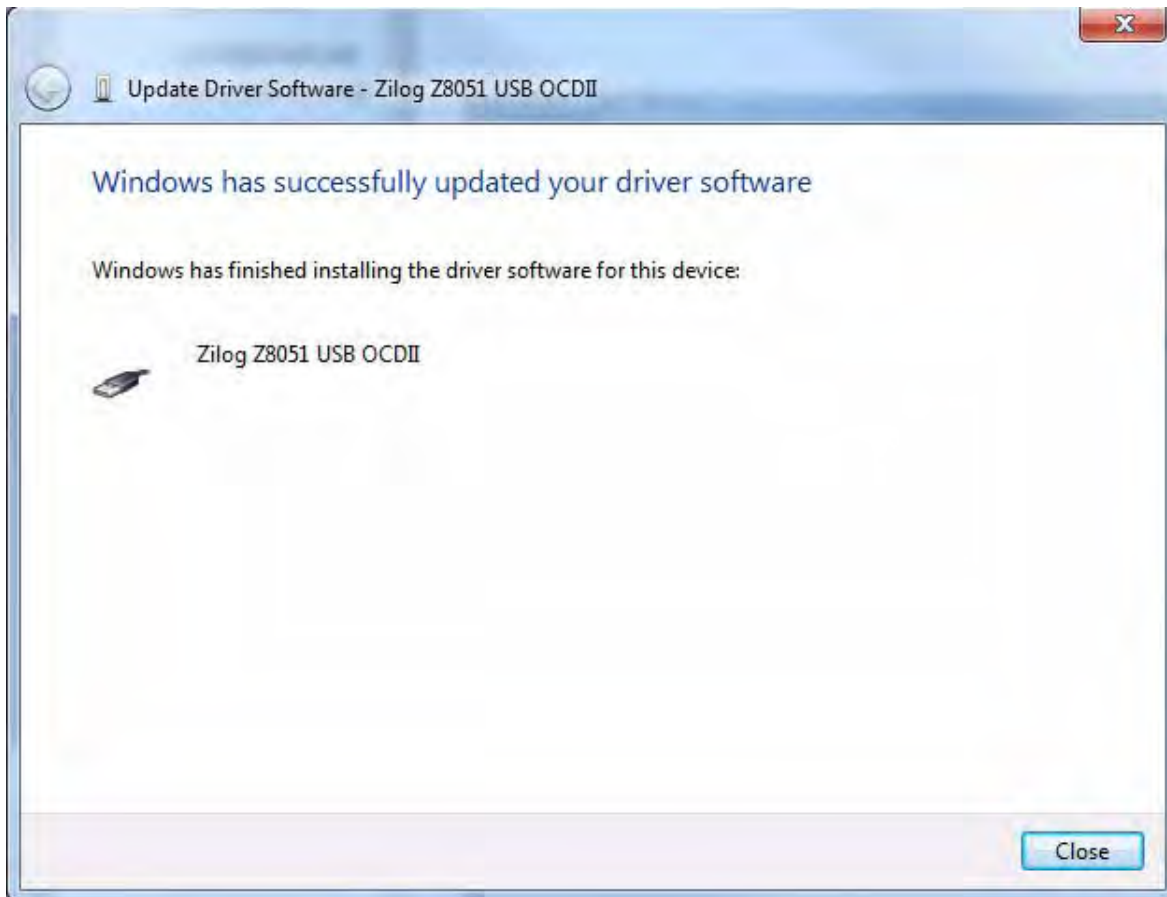

Figure 6. The Successfully Installed Dialog
5. When the installation is complete, the screen shown in Figure 6 will appear. Click **Close** to exit the OCDII driver installation.
- **Note:** On some installations, the Found New Hardware screen shown in Figure 6 may also display the text string, Zilog Z8051 USB OCD - No Firmware. This occurrence is normal and can be disregarded.